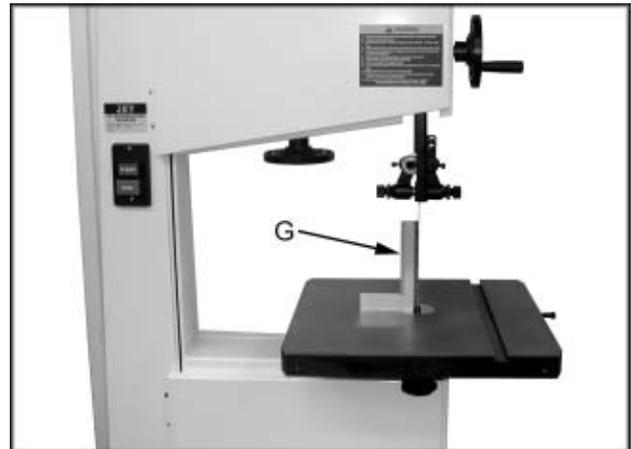

Fig. 7
3. Use a square (G, Fig. 7) placed on the table and against the blade to see if the table is 90 degrees to the blade.